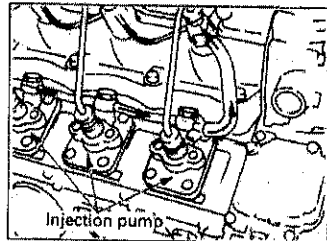

Fig 20 Injection pump
- (1) When the 'starter switch' is set to the DRIVE (ON) position to activate the electromagnetic pump, fuel is forcibly sent to the fuel valve of each injection pump (Fig 20) and further to the leak-off pipe of each nozzle holder, where air in the fuel leaks off automatically to the fuel tank.
- (2) Start the engine and check the fuel system for fuel leak.